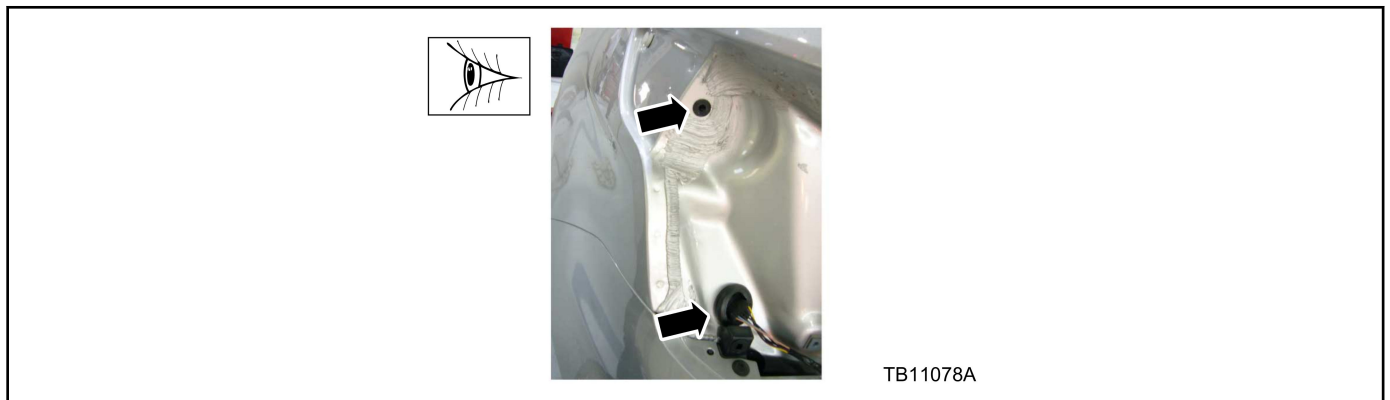

Figure 10 - Article 17-0044
- a. Inspect for excess body sealer beneath the grommet preventing it from fully seating thereby creating a leak. (Figure 10)